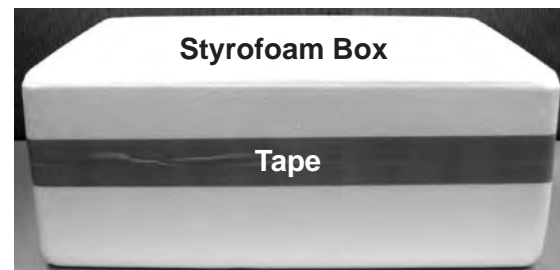

Figure SU-02 Styrofoam Box
2. Remove the Styrofoam Box and set on a flat surface. Refer to Figure SU-02.
3. Cut or remove the Tape that is at the seam of the Styrofoam Box. Refer to Figure SU-02.